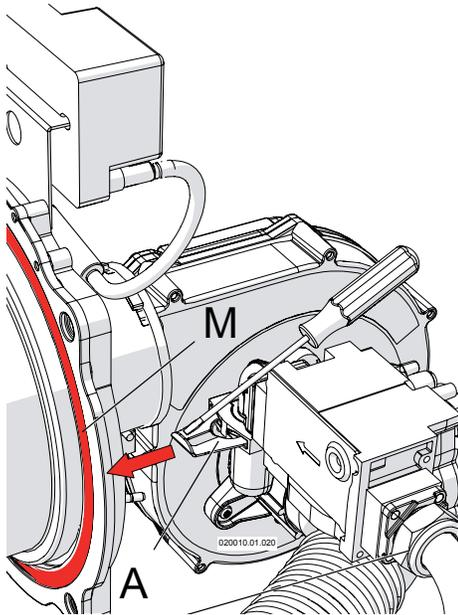

Figure 14-3 Dismantle the gas valve
- 4 - unscrew nut "H" as per Figure 14-3;
- 5 - with the help of a screwdriver, remove spring "A" (see figure 14-3);
- 8 - reinstall the gas valve, paying close attention to the o-ring "L" of Figure 14-4 (see also Figure 17.6) and to the gasket between gas valve and nut "H" of Figure 14-3;
- 9 - Insert again the spring "A" of Figure 14-3;
- 10 - tight nut "H" of Figure 14-3;
- 12 - check for any gas leaks on nut "H" of Figure 14-3;